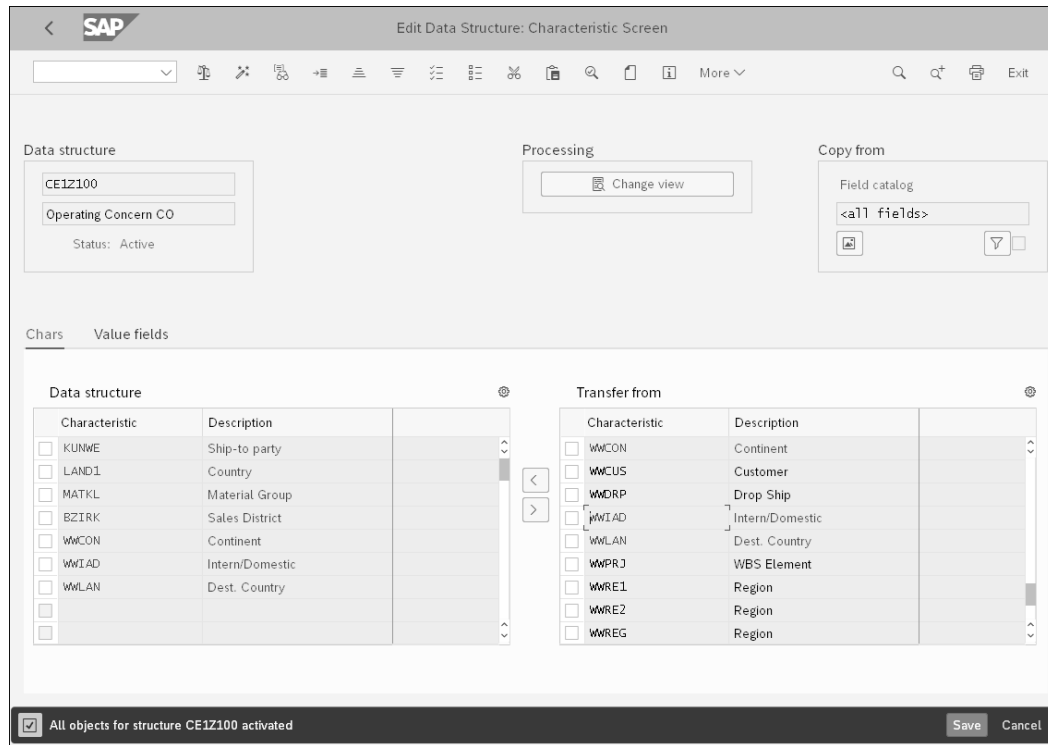

Figure 3.23 Activate the Data Structure
**Activate data structure** Next, activate the data structure with  (Activate). At the bottom of the screen shown in Figure 3.23, you can see that the data structure was successfully activated, and the characteristics in the **Data structure** section changed their color to blue. Now save your changes with **Save** or **Ctrl+S**.